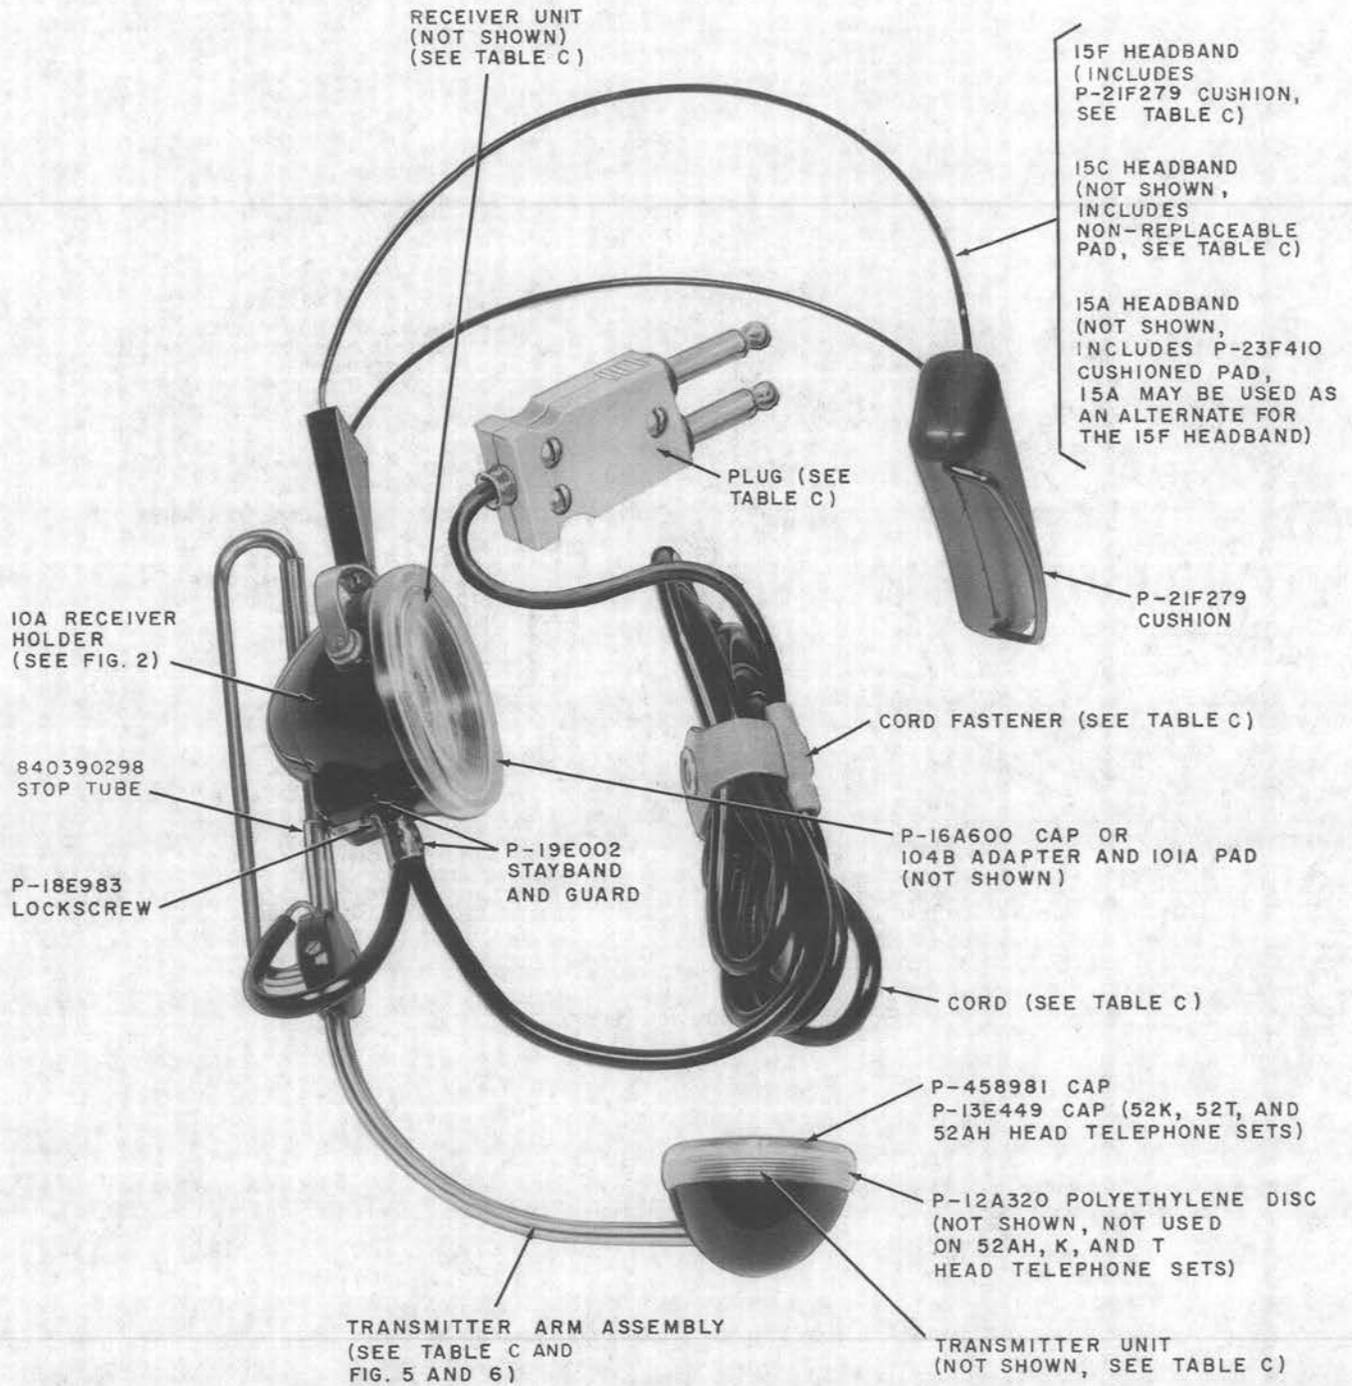

Fig. 1—52-Type Head Telephone Sets (52S Head Telephone Set Equipped With Stopbar Illustrated)
3.01 Figures 1 through 8 show the relationship of the various parts of the head telephone sets. The piece-part numbers of these parts are given with the names as listed by the Western Electric Merchandise Department.